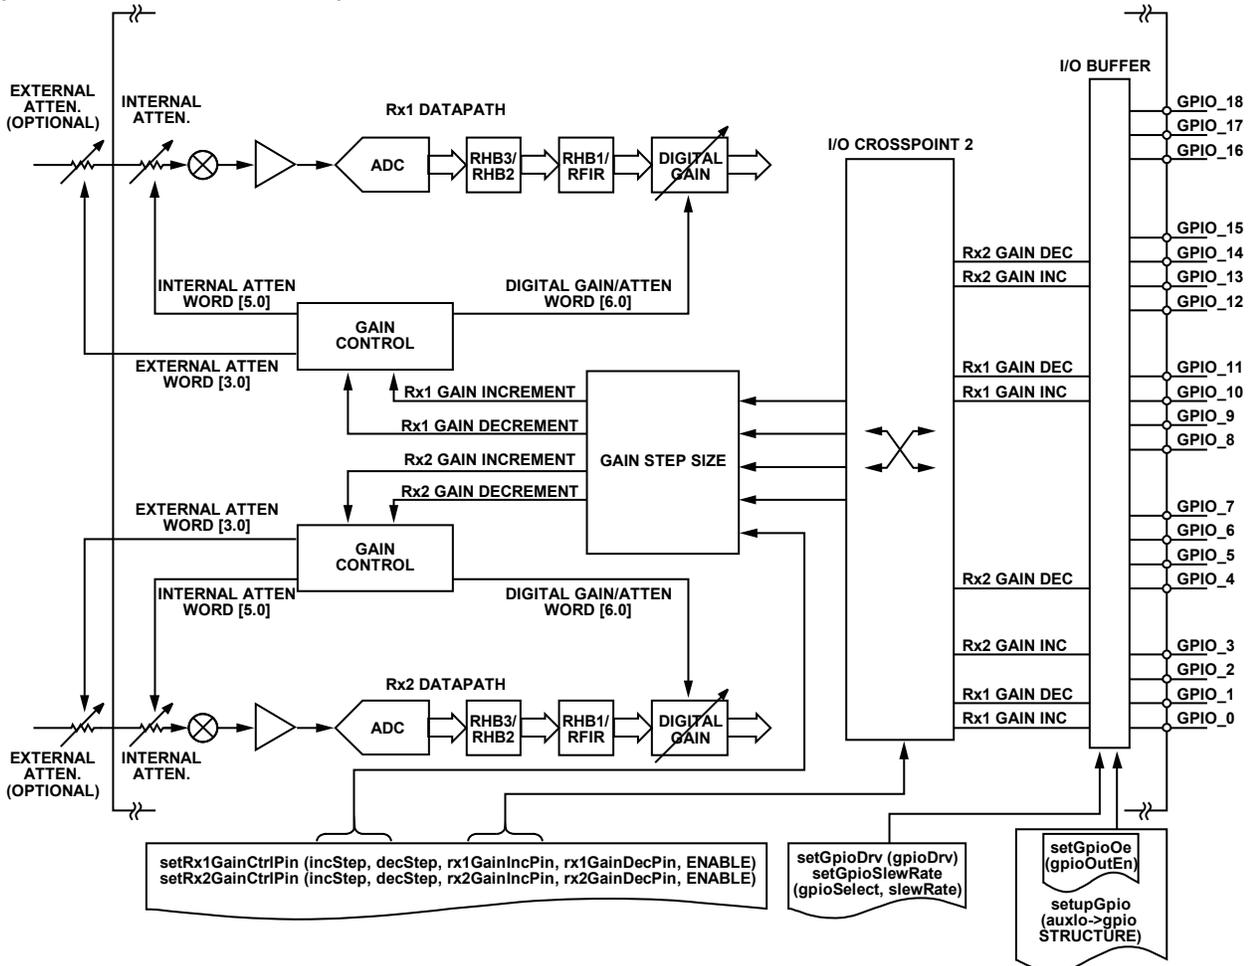

Figure 101. GPIO Configuration for Manual Gain Control Mode
Figure 101 shows a block diagram of the receiver paths together with the gain control blocks and the GPIO interface connection. There are two variable gain elements in the receive path: the internal RF attenuator and the digital gain/attenuator block. The MGC blocks control the gains of both these components simultaneously; the Gain Control block outputs in Figure 101 indicate this control.
Note that this device has two receiver chains. Each receiver has its own gain table that simultaneously controls each of the variable gain blocks in Figure 101. Each row of this table has a unique combination of gain settings. A pointer to the table determines which settings from this table are used. The internal radio frequency (RF) attenuator has 64 different attenuation settings, or indices (0 to 63), which range from 0 dB to 36.12 dB